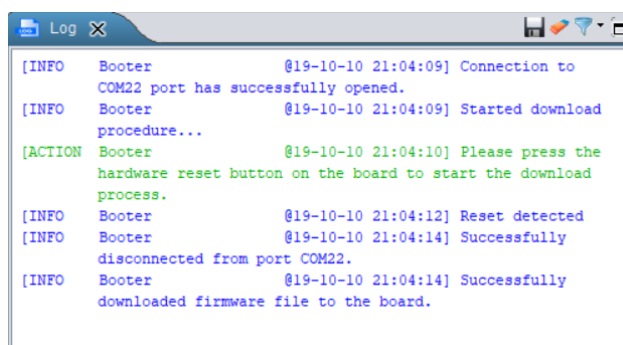

Figure 10: 1-wire UART booter logs
- Check the logs to confirm the firmware download as shown in Figure 10 and now the device will boot from 1-wire UART.